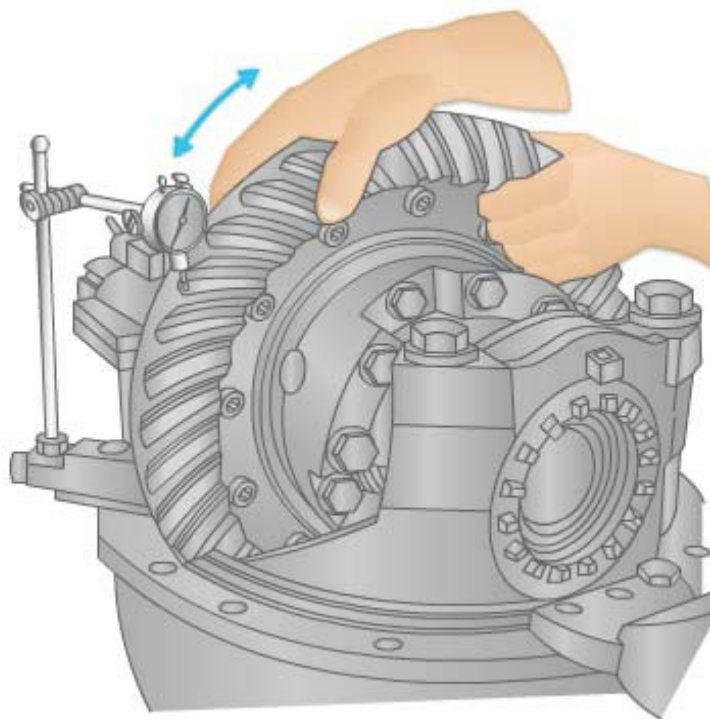

Figure 8-93 - Check crown gear backlash.
5. When reading the dial indicator, rotate the crown gear a small amount in both directions against the teeth of the drive pinion (*Figure 8-93*). If the backlash reading is not within specification (typically ranging from 0.010 to 0.020 inch), adjust backlash as outlined in Steps 6 and 7.